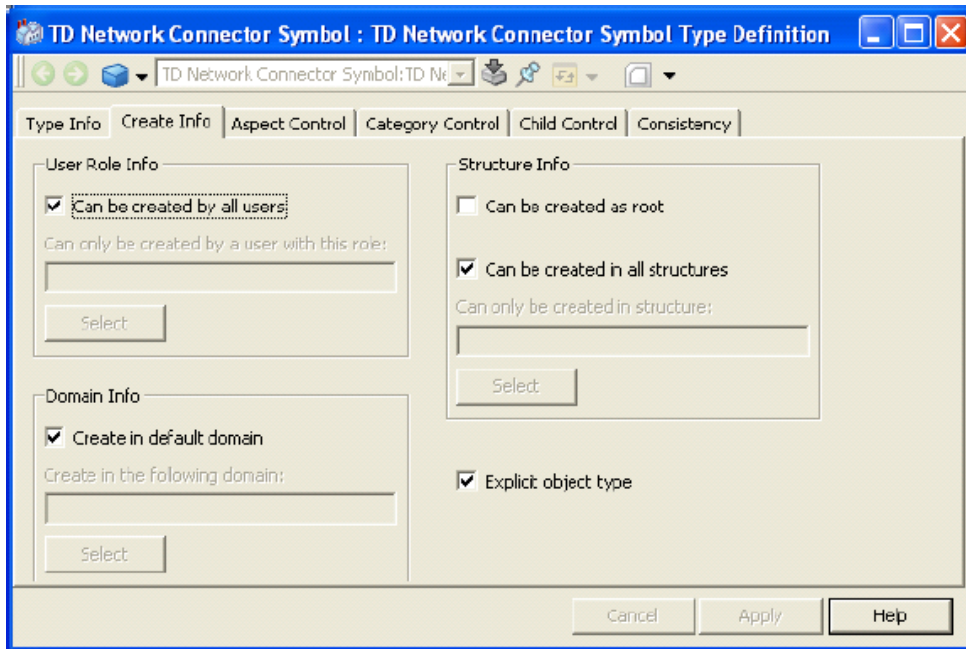

Figure 37. Create/Structure Info for Topology Component Symbol Objects
- To define a topology component symbol object, the first option must not be set (must be cleared) and the two other options must be set (selected). See Figure 37.